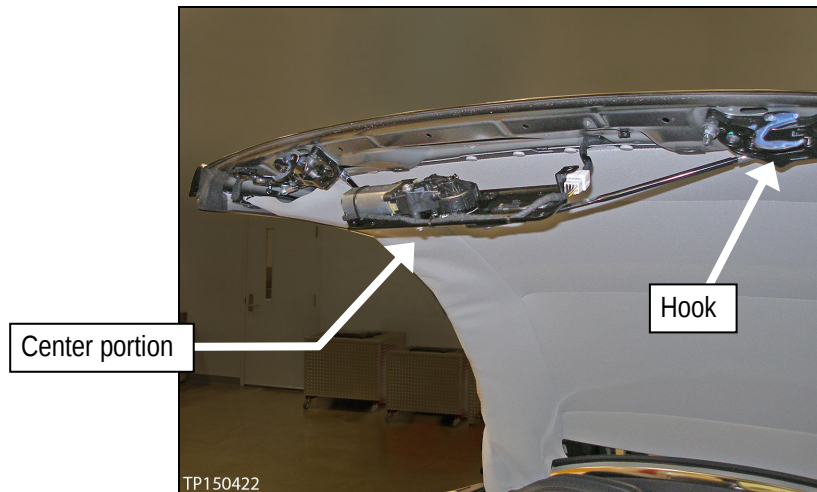

Figure 10a
- Allow the center portion of the roof lock assembly to hang down (see Figure 10a).